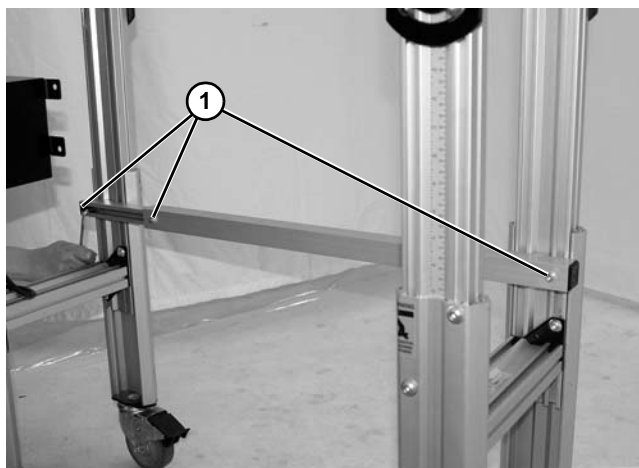

Figure 16
**Failure to secure three screws (Figure 16, item 1), may cause conveyor sections to drop down, causing severe injury. TIGHTEN SCREWS AFTER ADJUSTMENT.**
4. Tighten three screws (Figure 16, item 1), to 80 in-lb (9 Nm).